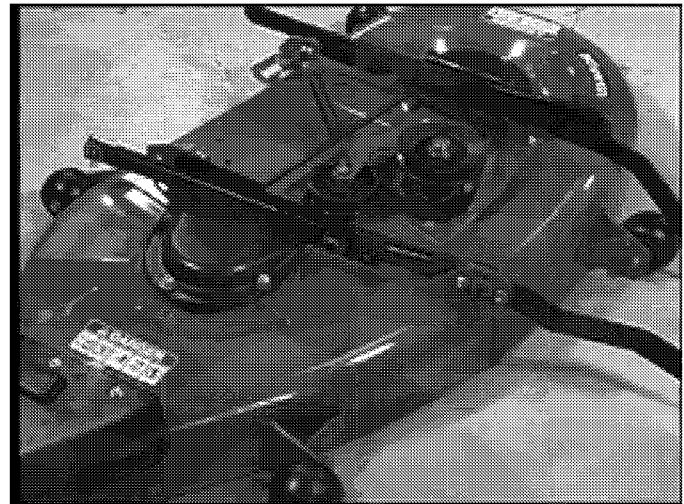

Figure 19
3. Release the mower deck belt idler tension spring from the anchor stop. Figure 19